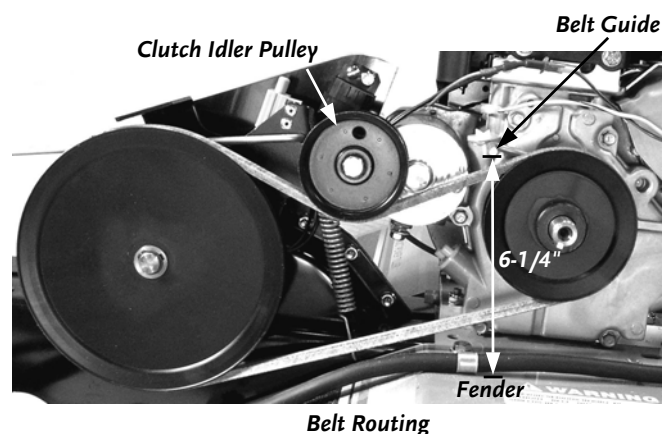

Figure 20
DO NOT MOVE OR REMOVE THE BELT GUIDE (*FIGURE 20*). IF YOU ACCIDENTALLY ALTER THE POSITION OF THE BELT GUIDE, RETURN IT TO THE CORRECT SETTING OF 6-1/4" VERTICAL INCHES FROM THE FENDER TO THE BOTTOM OF GUIDE (*FIGURE 20*).
Tip: Lifting up on the Clutch Idler Pulley (*Figure 20*) may help in removing the Belt.
4. Reinstall a new Belt (*Figure 20*), engage the Tine Clutch Lever, and replace the Belt Guard.